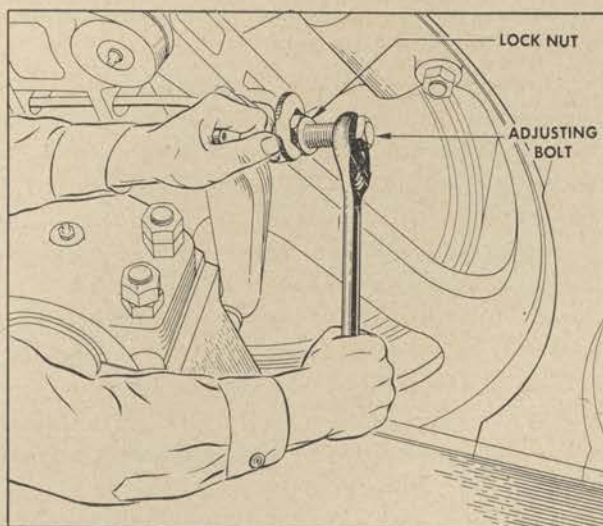

Figure 238. Adjusting friction clutch adjusting bolt.
3. Tighten lock nut to maintain adjustment. Hold adjustment bolt firmly in position while tightening lock nut. (See fig. 238.)